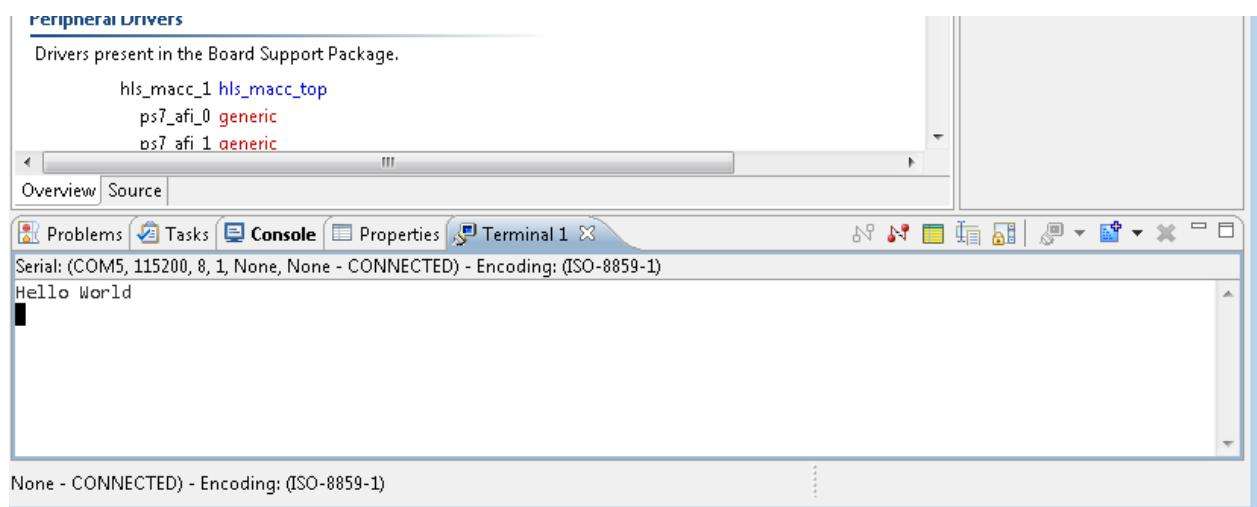

Figure 247 Console Output
10. Switch to Terminal tab and confirm that "Hello World" was received (Figure 247)